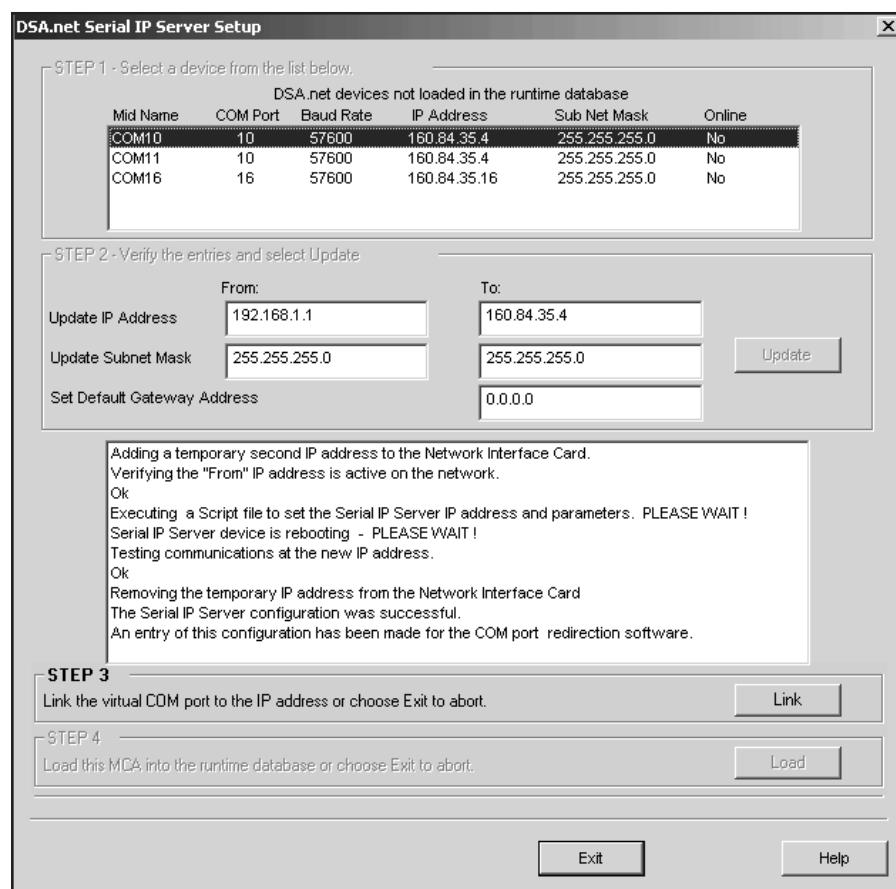

Figure 11 Progress Messages Displayed
3. Click the **Update** button to start the configuration process. Progress and status messages will be displayed in the Status box (Figure 11).